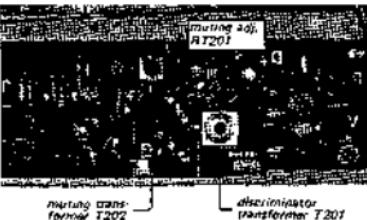

Fig. 3-4. Adjusting parts location
3. Turn the top core (secondary side) of discriminator transformer T201 (see Fig. 3-4) with a hex-head alignment tool to obtain a null-point reading on the tuning meter. If the discriminator transformer (T201) is not aligned correctly, some deviation on the tuning meter will be observed.
2. Turn the Knob of RT201 (see Fig. 3-4) fully clockwise on the fm iF amplifier board.